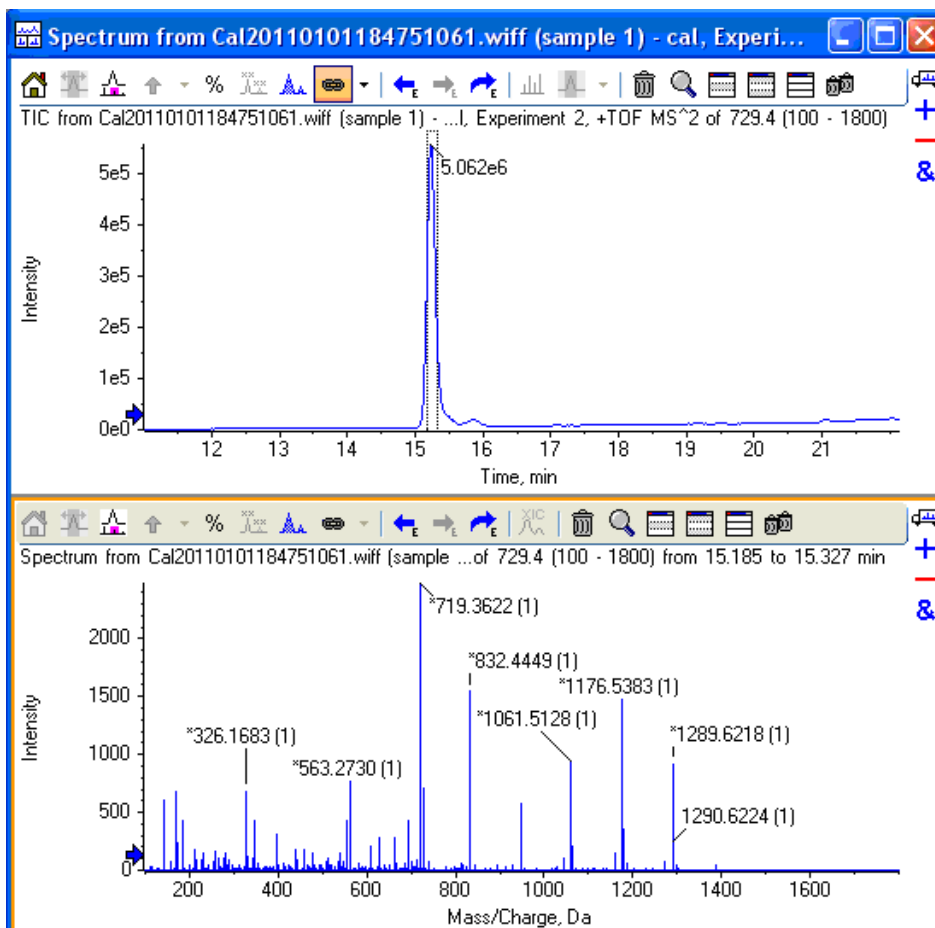

Figure 1-30 TOF MS/MS XIC of m/z 729.3652 peak
2. Select the MS/MS scan, and then select **Remove all Traces Except Active** to display the pane shown in Figure 1-30.